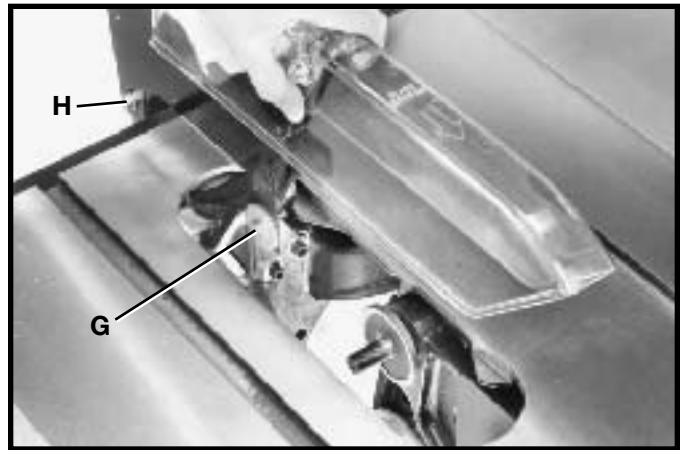
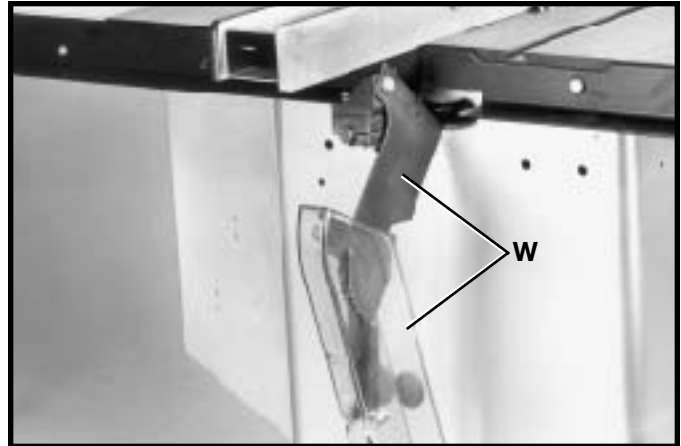

Fig. 80
Fig. 81
IMPORTANT: For certain cutting operations such as dadoing and moulding where you are not cutting completely through the workpiece, the blade guard and splitter assembly cannot be used. Simply loosen screws (G) and (H) Fig. 80. Lift up and swing blade guard and splitter assembly (W) Fig. 81, to the rear of the saw as shown in Fig. 81. **CAUTION:** Always return and fasten the blade guard and splitter assembly to its proper operating position for normal thru-sawing operations.